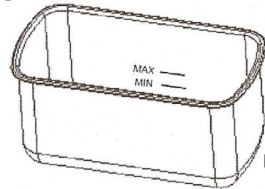

Fig. 4
1. Pour cooking oil into the oil reservoir making sure that it is between the "Min" and "Max" fill lines in the oil container. **Do not under fill or overfill.** The oil levels must be maintained between the minimum (2 liters) and the maximum levels (3 liters) marked inside the oil container. (Fig. 4)